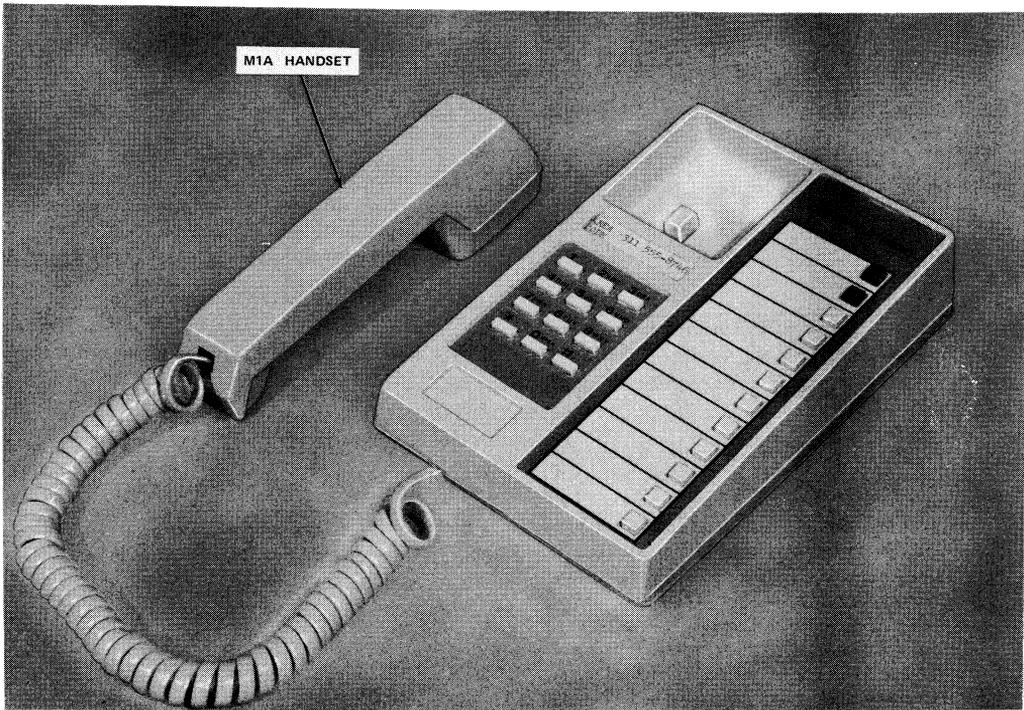

Fig. 1 — 5001T01A Telephone Set
1.01 This section contains information on the TOUCH-A-MATIC telephone S series, 12-button, desk-type set (Fig. 1 and 2).